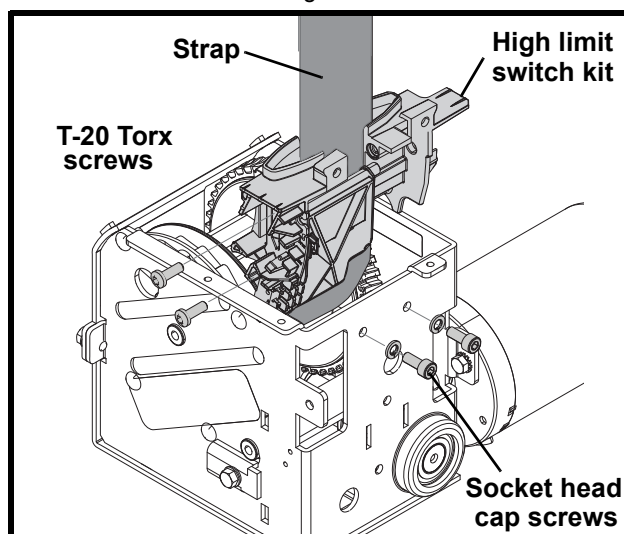

Fig. 18
- 8) Unscrew the 2 T-20 Torx screws (see Fig. 18).